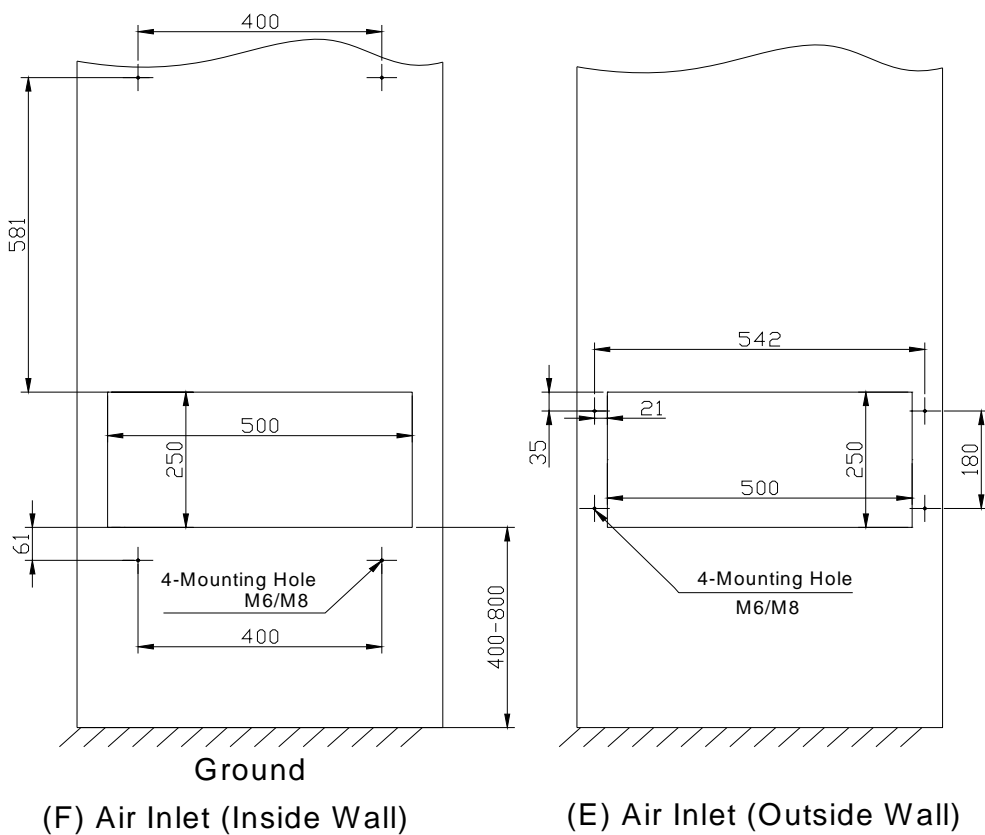
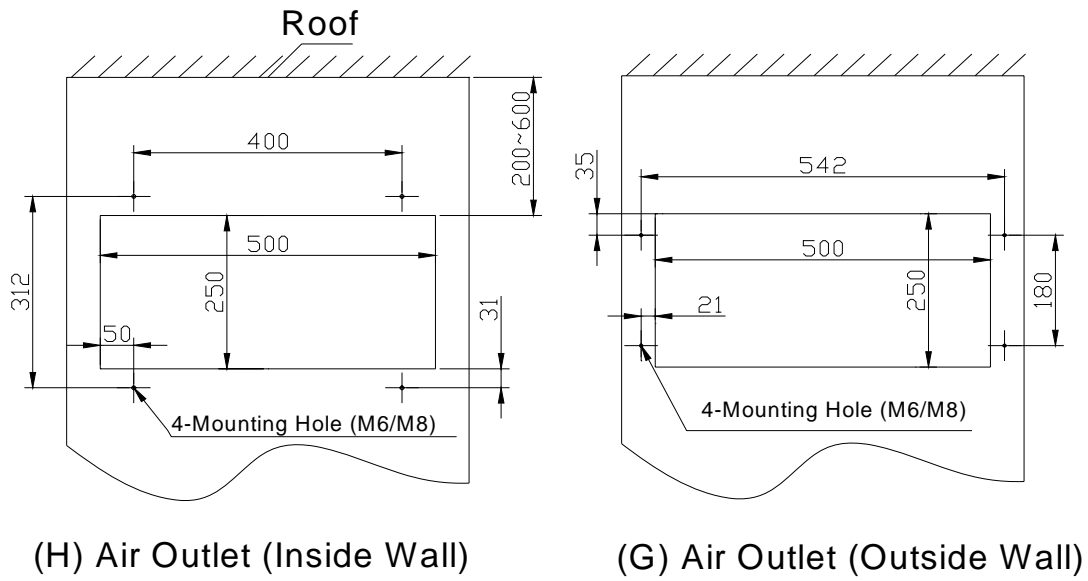

Fig 4.2.1
Fig 4.2.2
- Make 2 holes for ventilation and 16 holes for screws on the wall, as shown in Fig 4.2.1 and Fig 4.2.2, the cutouts on the side of the base station shelter must be clean.